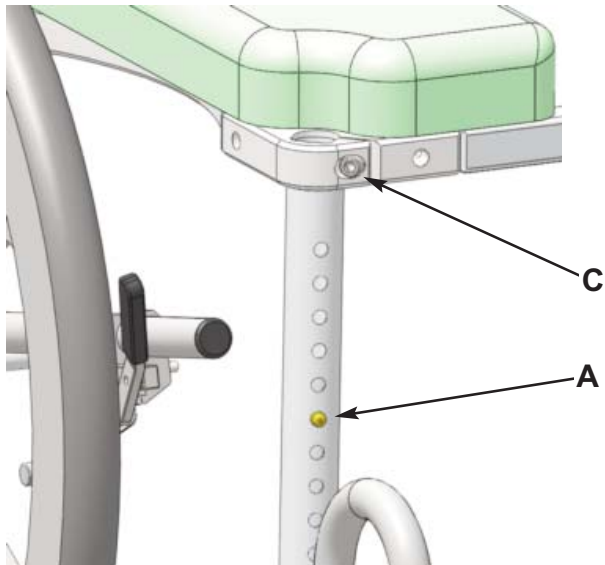

Figure 21
- 5) Remove the two axle blocks from the 10-Hole offset outer legs and re-install onto the two 11-Hole outer legs (Refer to Figure 21 on Page 5).
A Leg Height Adjustment: When making height adjustments to any of the legs, make sure that the brass buttons are fully engaged into the outer legs. If pushed too hard the button could become stuck inside the inner leg (Contact NuprodX, Inc. if this occurs). Leg height adjustment should only be made before transferring the user into the chair (Refer to Figure 21).
C Fasteners: Over time the screws and washers on the chair may become loose. It is very important that these are checked and securely tightened before each use. Failure to do so could cause a part to dislodge from the chair (Refer to Figure 21).